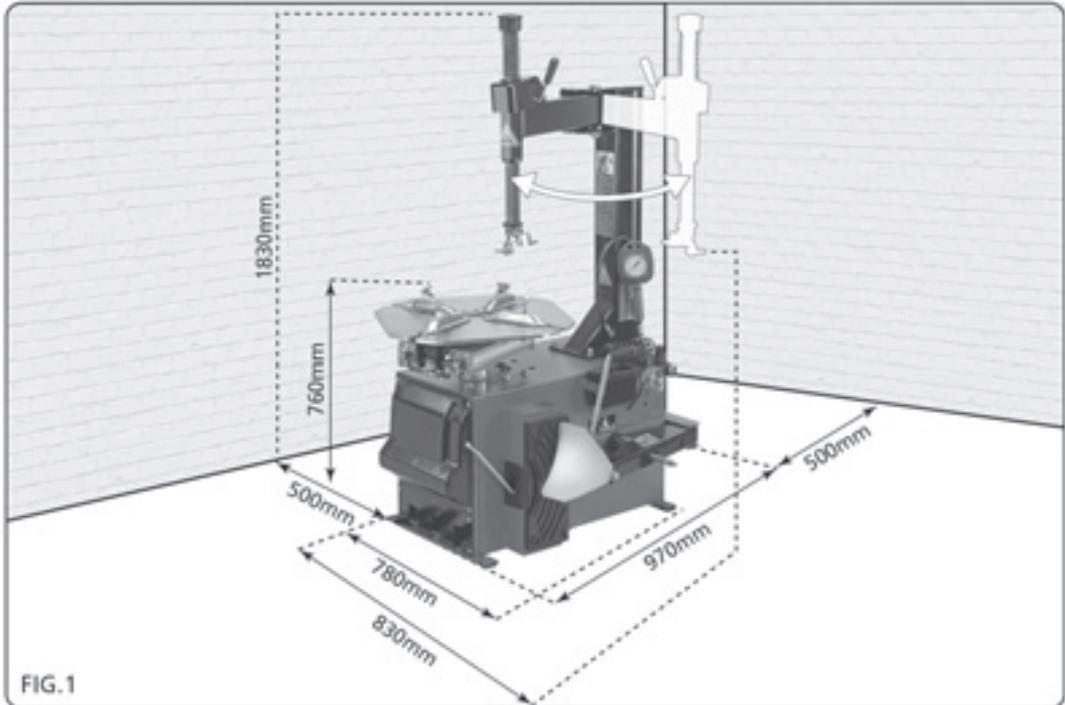

FIG.1
8.1 DETERMINE THE PROPER LOCATION FOR THE TYRE CHANGER (FIG.1).